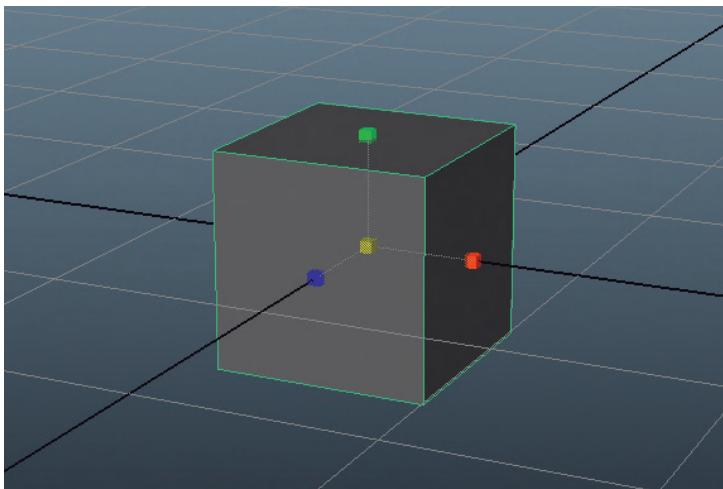

FIG 2.13 An active object with the Scale Tool chosen.
Step 9: Finally, and to carry on with a theme, with the object still selected, choose the Scale Tool from the Tool Box (Fig. 2.13).